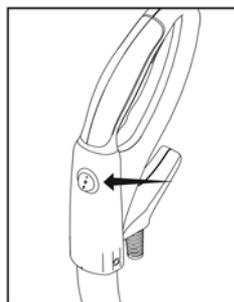

Fig. 2
The power switch located on the vacuum handle, is a three-way switch (Fig. 2). The middle position (O) is the “Off” setting, the rear position (I) is the “On” setting and the forward position (II) is for “Maximum Power” (Fig. 3).